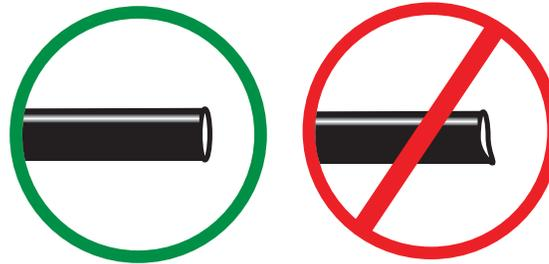

fig. 8
- a. Check the air line connection by deflating the spring and removing the line by pulling the collar against the fitting and pulling firmly on the air line. Trim 1" off the end of the air line. Be sure the cut is clean and square (see Fig. 8). Reinsert the air line into the push-to-connect fitting.